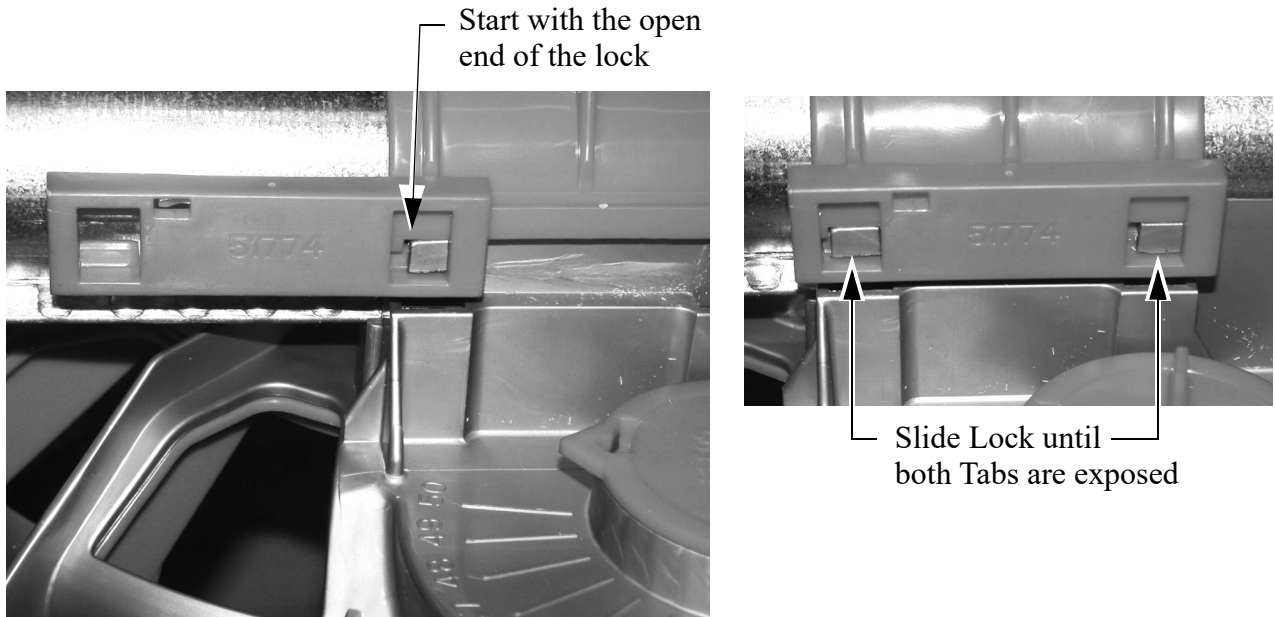

Figure 32. Slide Locks
9. Slide Lock installed and two tabs showing. **See Figure 32.**